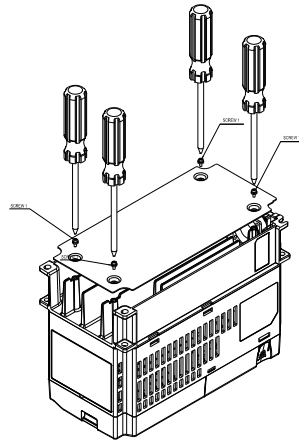

Figure 1
1. Install accessory 1 by fastening 4 of the screw 1(M3) (figure 1). Screw torque: 6–8 kg-cm / [5.21–6.94 lb-in.] / [0.6–0.8 Nm]